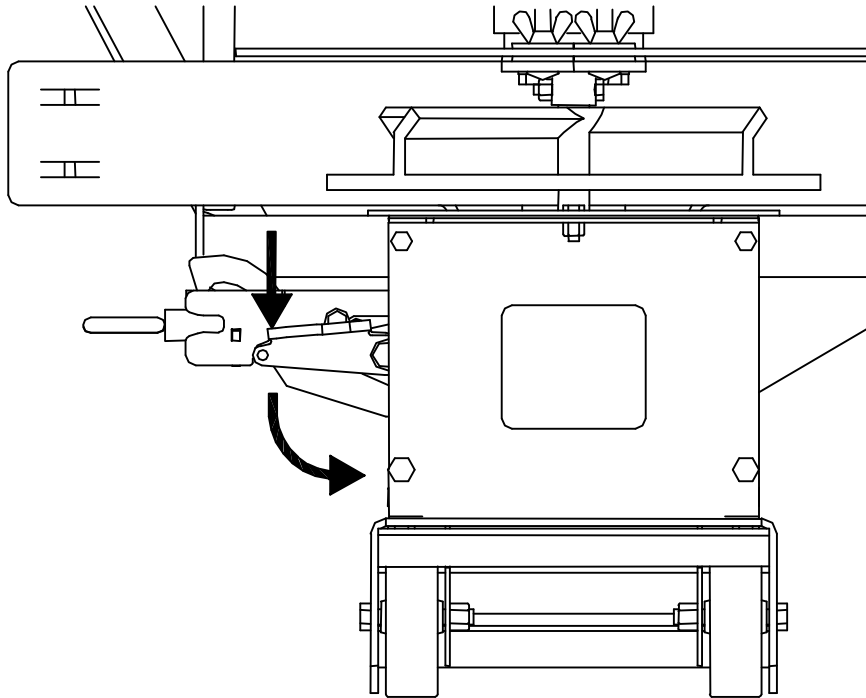

Figure 9. RT3 Attachment Lever Rotation
- 4) Rotate attachment lever counter-clockwise to the "ON" position (See Figure 9).